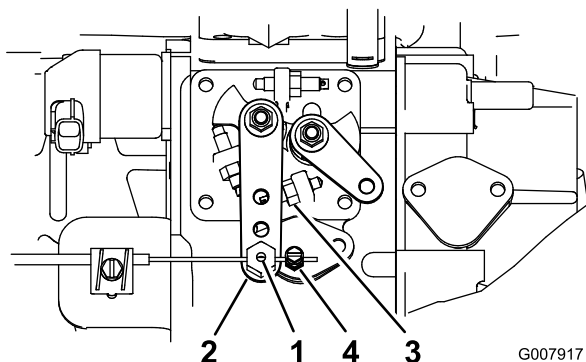

Figure 58
2. Loosen the throttle-cable connector, on the throttle cable, next to the injection pump lever (Figure 58).
3. Hold the injection-pump lever against the high idle stop (Figure 58).